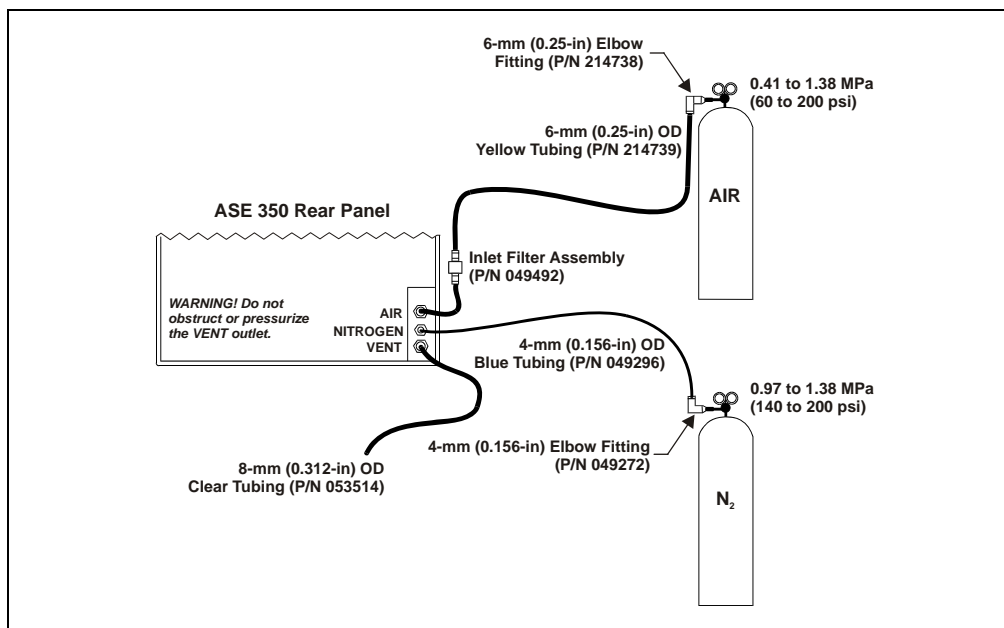

Figure B-1. Dionex ASE 350 Rear Panel Connections
The air and nitrogen connections on the Dionex ASE 350 rear panel (see Figure B-1) are press fittings.
Refer to Figure B-1 when making air and nitrogen connections.
8. Push one end of the 3.05-meter (10-ft) section of clear 8-mm (0.312-in) OD tubing (P/N 053514) into the **VENT** connector on the Dionex ASE 350 rear panel (see Figure B-1).